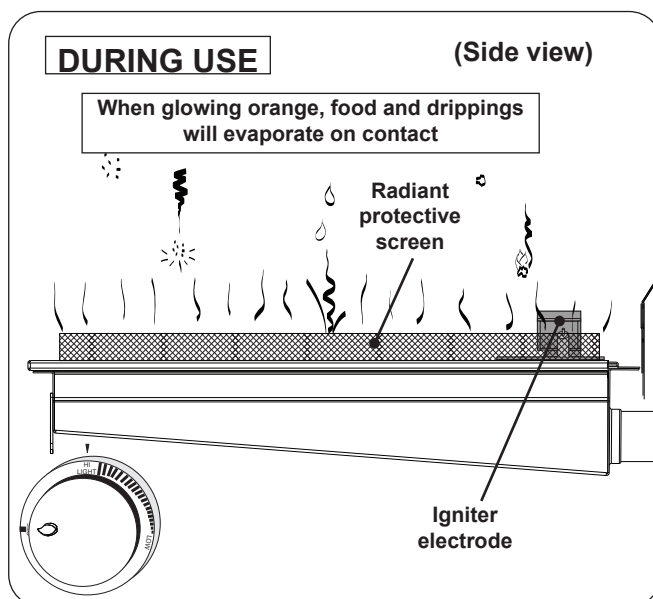

Fig. 40-3 Infrared burner - DURING USE
- **DO NOT place food on the cooking grid until the infrared burner glows orange (Fig. 40-3).** Drippings are heated and evaporate instead of sticking to and impairing burner function.